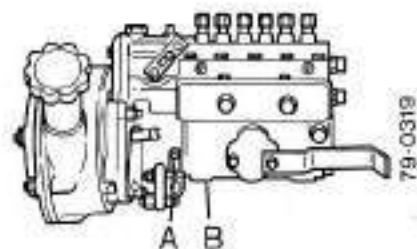

FIGURE 74. FUEL INJECTION PUMP
4. **Fan Belt:** Check the belts for the correct tension as shown in Figure 74. Adjust if necessary as follows: